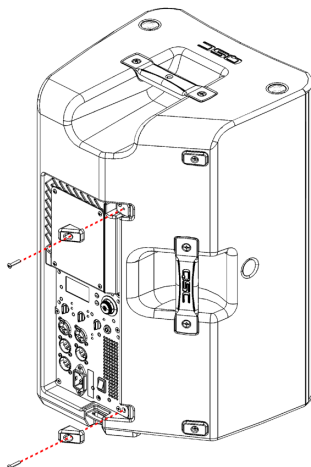

Figure 5.1.1 - Underneath the rubber feet are additional screws.
3. Remove 2 machine screws that secure the rubber feet to the amplifier module. These screws must be removed to access other screws beneath the rubber feet. See Figure 5.1.1.
- Fasten 2 machine screws, including the rubber feet, into the amplifier module. See Figure 5.1.1